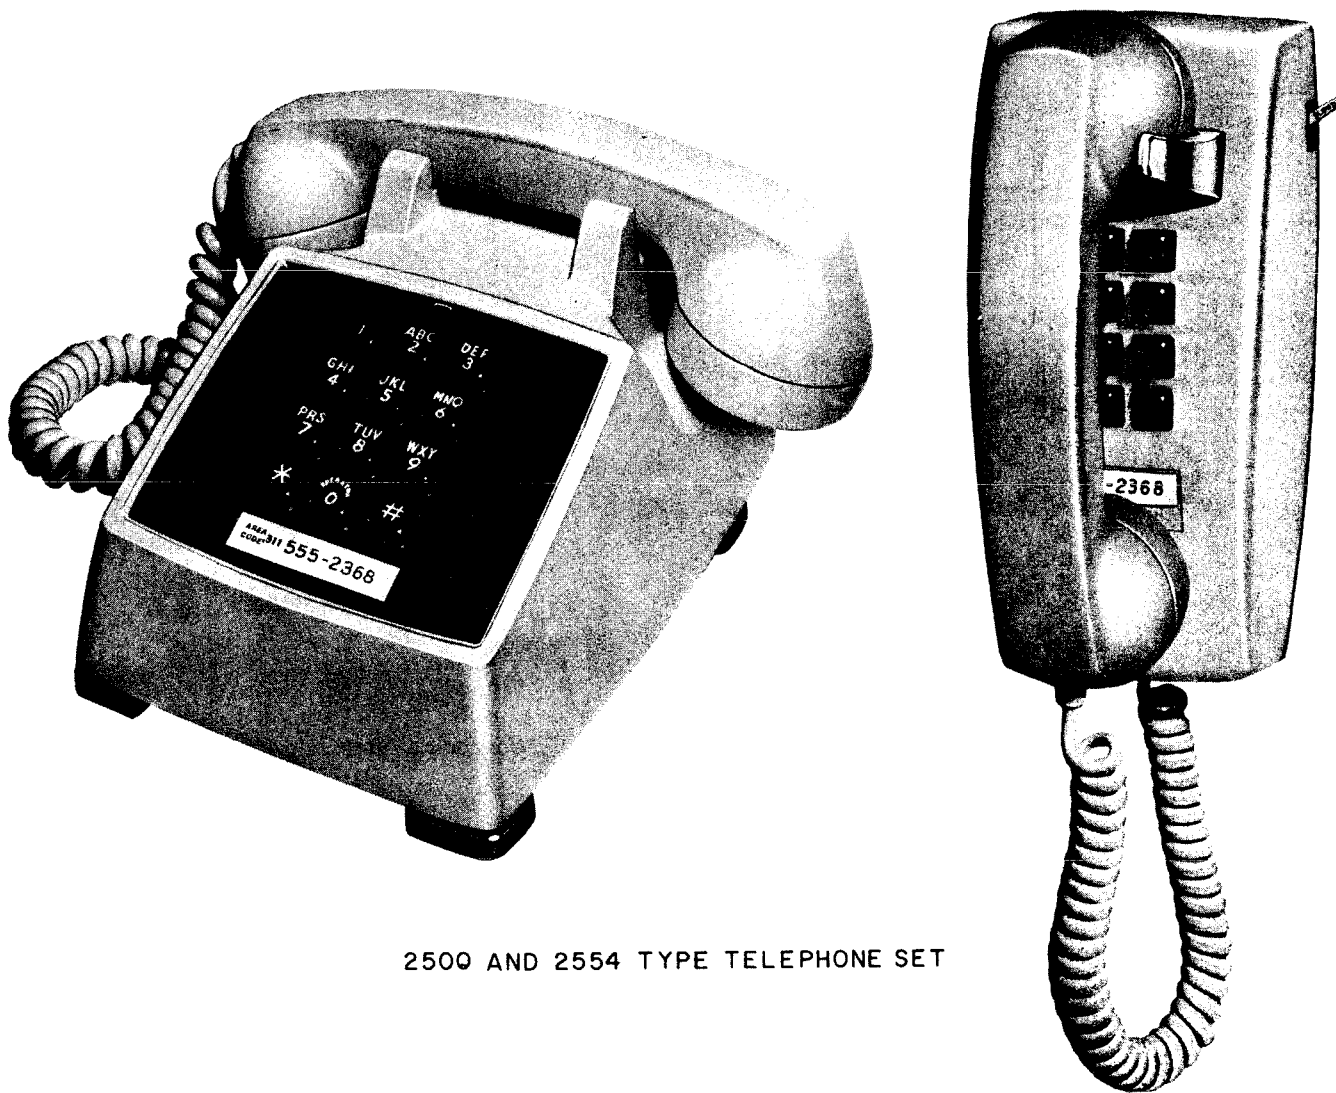

**Fig. 30 — Retainer Ring Mounting in Set Housing**
- (1) Remove set housing with lamp cap in place.
- (2) Press two tabs of retainer ring together.
- (3) Insert retainer ring into lamp cap so that retainer ring engaging pins fit into lamp cap slots (Fig. 30).
- (4) This prevents normal rotation and removal of the lamp cap.